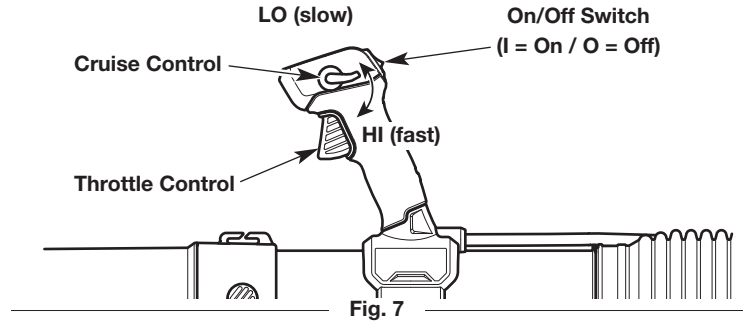

Fig. 7
NOTE: There is no need to turn the unit on. The On/Off switch is in the **On (I)** position at all times (Fig. 7).
3. Move the cruise control to the **HI (fast)** position (Fig. 7).
NOTE: Keep the cruise control in the **HI (fast)** position for **ALL** further steps (Fig. 7).
2. Press and hold the On/Off switch in the **Off (O)** position until the engine comes to a complete stop (Fig. 7).
- Use the cruise control to make continuous operation easier (Fig. 7).